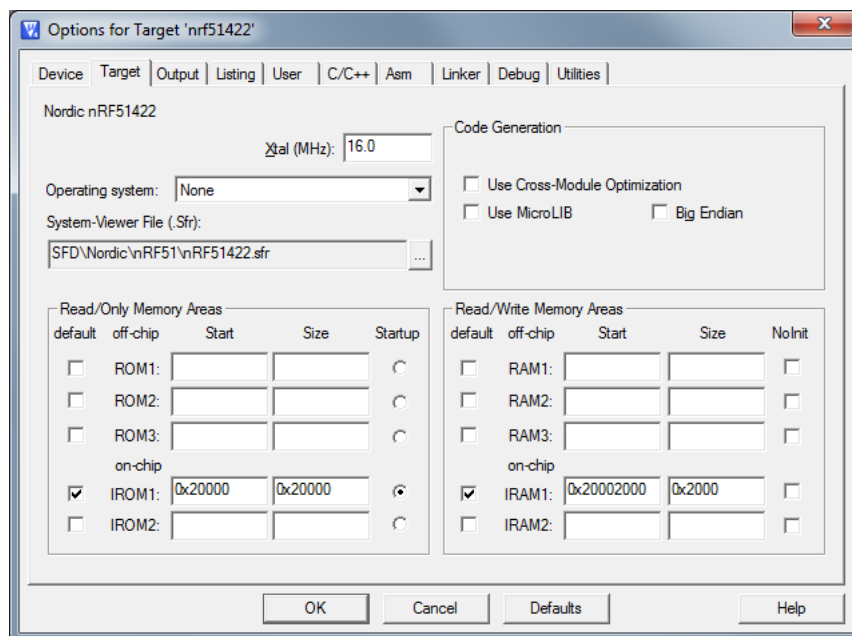

Figure 20 Memory layout with example SoftDevice
6. In **Read/Write Memory Areas**, define values for **Start** and **Size** as seen in *Figure 20 on page 27*.